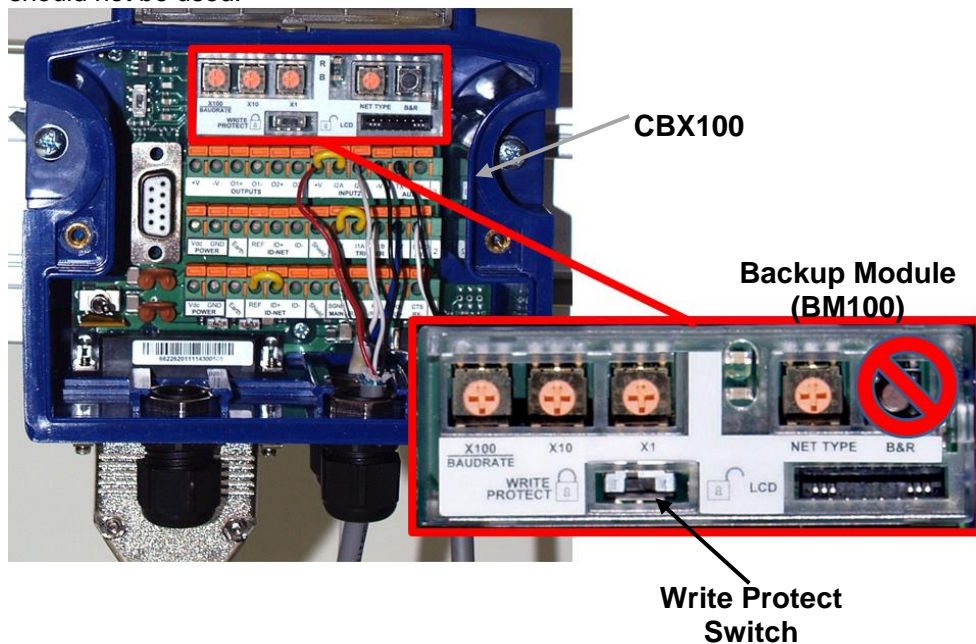

Figure 65: CBX100 with BM100 backup module installed
1. Make sure the BM100 write protect switch is in the unlocked position (see *Figure 65*).
4. Once parameters have been saved, you can protect the parameters by placing the backup module's write protect switch in the lock position. See *Figure 65*.